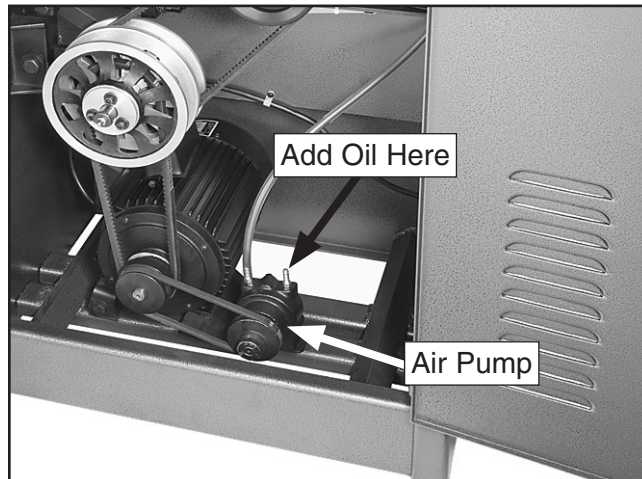

Figure 58. Air pump oil fitting.
2. Add four drops of quality air tool oil to the fitting on the right side of the pump (see **Figure 58**).